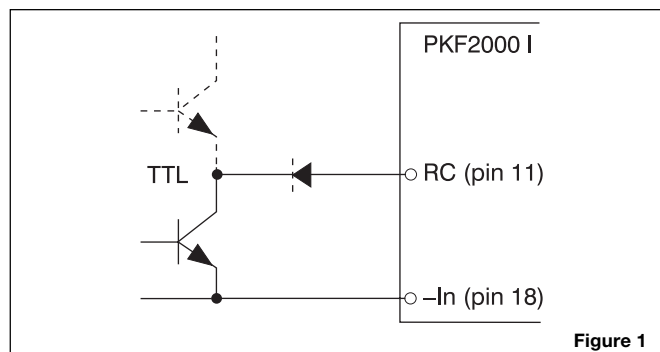

Figure 1
Turn-on or turn-off can be realized by using the RC-pin. Normal operation is achieved if pin 11 is open (NC). If pin 11 is connected to pin 18 the power module turns off. To ensure safe turn-off voltage difference between pin 11 and 18 shall be less than 1.0 V. RC is TTL open collector compatible output with a sink capacity >300  $\mu$ A (see fig. 1).